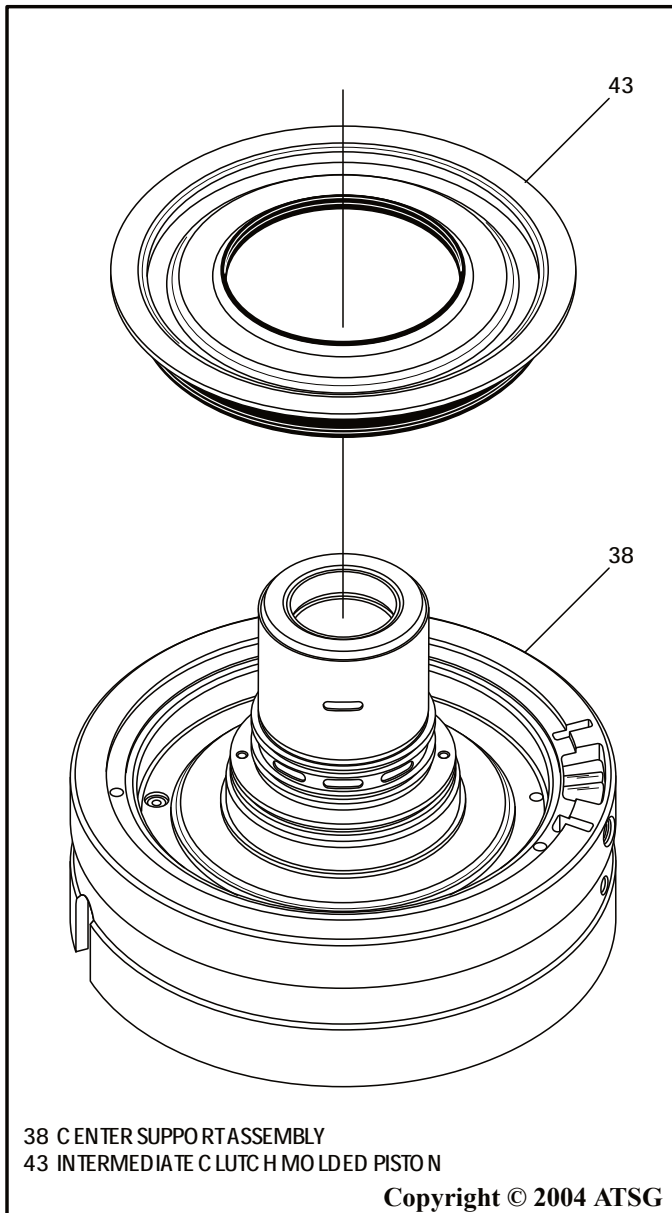

Figure 111
4. Set center support on a flat work surface, as shown in Figure 111.
6. Install the intermediate clutch piston into the center support, as shown in Figure 111.